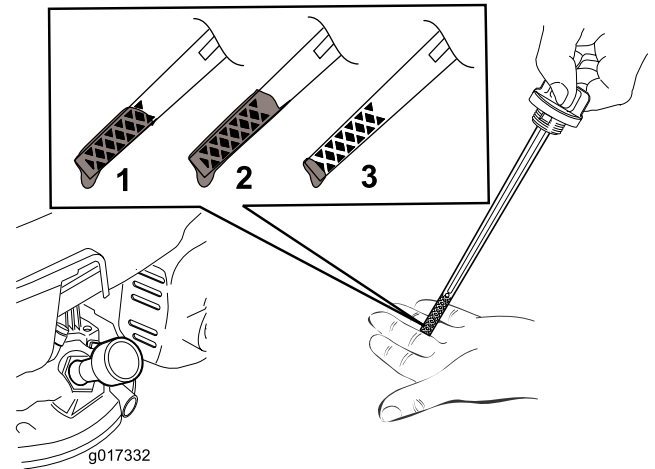

Figure 12
5. To determine the proper oil level on the dipstick, refer to Figure 12).
Note: Fill the engine crankcase with oil until the dipstick indicates that the engine oil level is correct as shown in Figure 12. If you overfill the engine with oil, remove the excess oil as directed in Changing the Engine Oil \(page 16\).